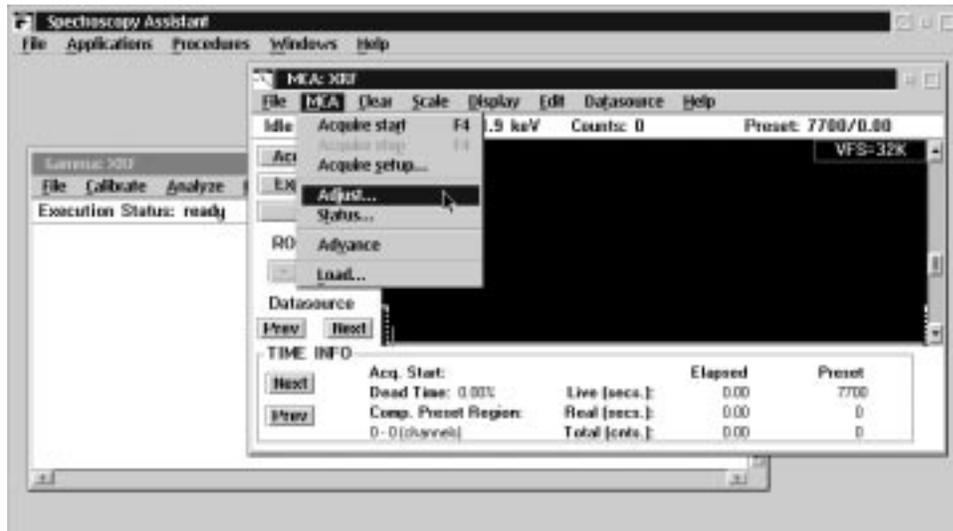

Figure 6. Window showing selection of “Adjust” menu item.
- Using the “MCA” menu in “MCA View Control,” select “Adjust” as shown in Figure 6.